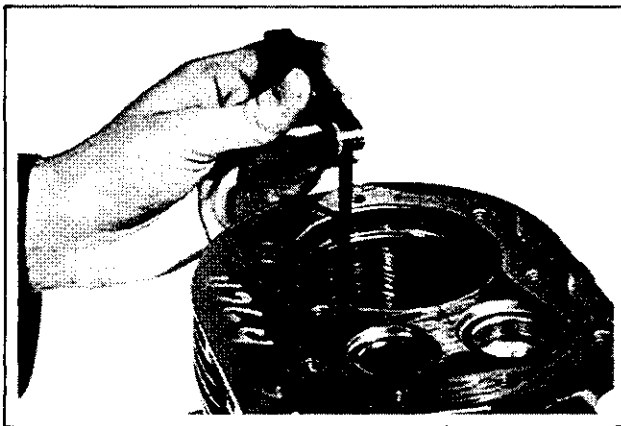

Figure 10-13. Measuring Piston Ring End Gap.
3. Before installing new rings on piston, place top two rings, each in turn, in its running area in cylinder bore and check end gap (refer to Figure 10-13). This gap should be **.010"/.032"** in a used cylinder bore and **.010"/.023"** in a new cylinder bore.